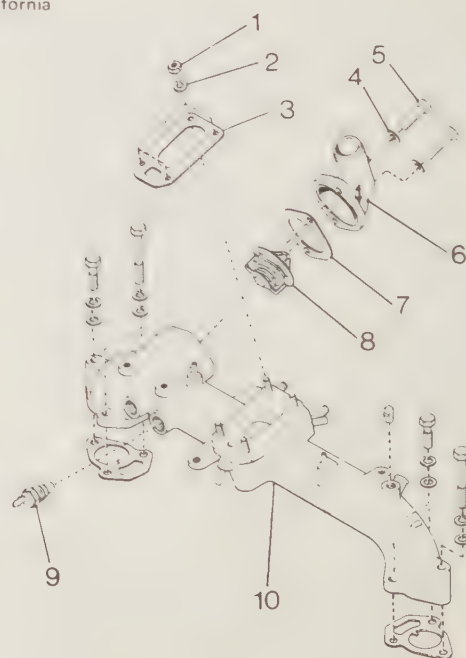

Fig. 2.8. Component parts of intake manifold and thermostat
- 9 Refitting is the reverse of the removal sequence. Ensure that the thermostat is fitted the correct way round, refer to Fig. 2.8.